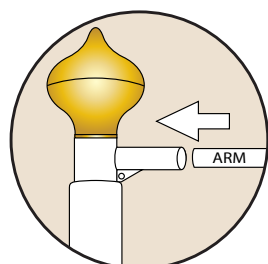
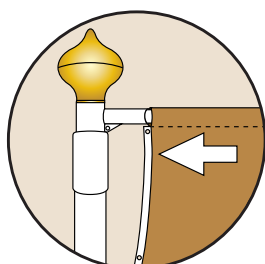
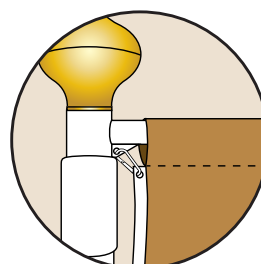

Fig 9
Fig 10
Fig 11
11. Clip the arm into place, (See Fig 9). Slide the top sleeve of the flag up the arm, (See Fig 10), and attach the metal clip in the corner of the Rotating arm joint to the top eyelet on the flag. (See Fig 11)